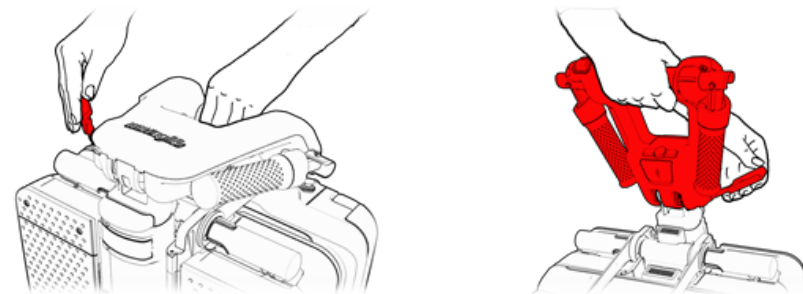

Figure 4
2. Release the adjustment lever of the handlebar (see Figure 4, step 1) and bring the handlebar to an upright position (see Figure 4, step 2), then bring the lever back to its secured position (see Figure 4, step 3).